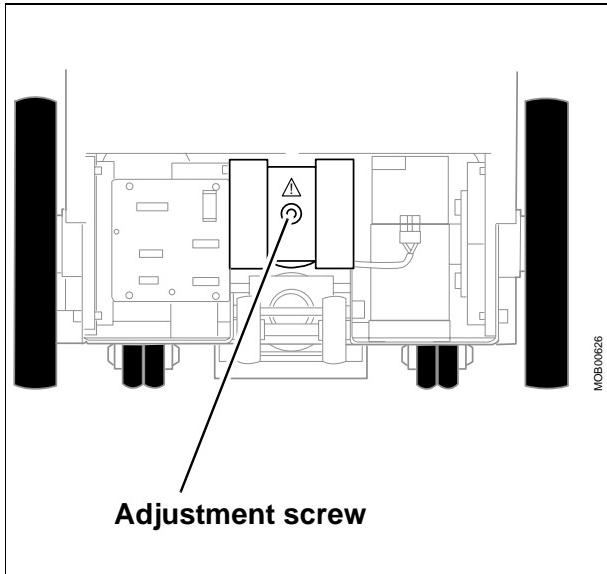

Fig. 27
- Loosen the adjustment screw so that the arm is no longer balanced, however the spring mechanism remains in position (Fig. 27). Do not allow the spring mechanism to fall out.